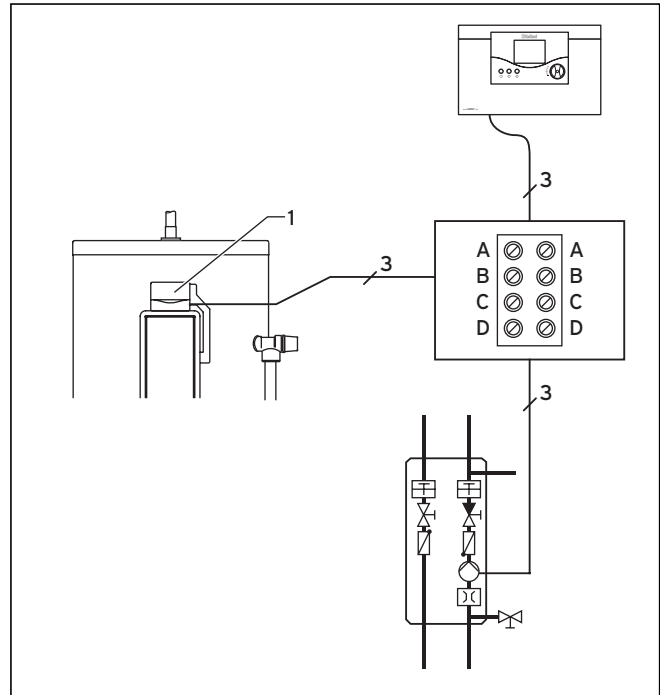

**Fig. 5.23 Installation of the VR 10 temperature sensor**
- Installation of two VR 10 temperature sensors in the solar cylinder (see Fig. 5.23)
- Attachment of the solar gain sensor to the solar circuit return (see Fig. 5.23)
- Push one of the VR 10 temperature sensors **(1)** supplied with the solar control in the now vacant immersion sleeve, as illustrated in Fig. 5.23.